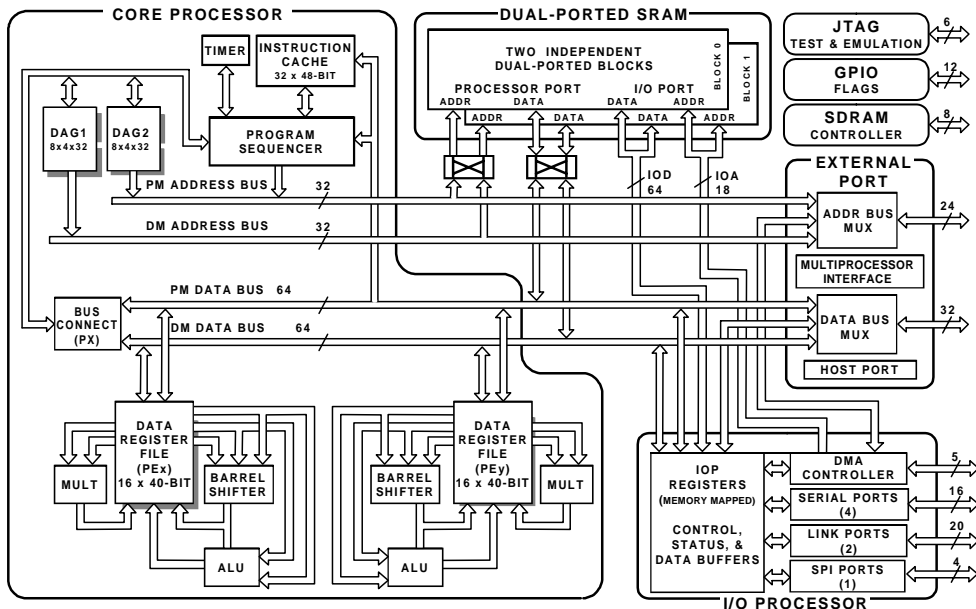

Figure 1-1. ADSP-21161 SHARC Block Diagram
Figure 1-1 shows a detailed block diagram of the processor, illustrating the following architectural features:
Figure 1-1 also shows the three on-chip buses of the ADSP-21161: the Program Memory (PM) bus, Data Memory (DM) bus, and Input/Output (IO) bus. The PM bus provides access to either instructions or data. During a single cycle, these buses let the processor access two data operands from memory, access an instruction (from the cache), and perform a DMA transfer.
The ADSP-21161 forms a complete system-on-a-chip, integrating a large, high-speed SRAM and I/O peripherals supported by a dedicated I/O bus. The following sections summarize the features of each functional block in the ADSP-21161 SHARC architecture, which appears in Figure 1-1. With each summary, a cross reference points to the sections where the features are described in greater detail.